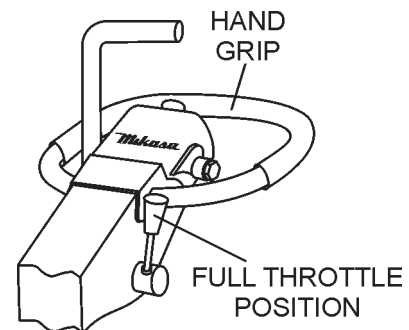

Figure 18. Throttle Lever (FAST)
- Grasp the compactor's **hand grip** (Figure 18), and move the engine throttle lever quickly to the **fast** position.